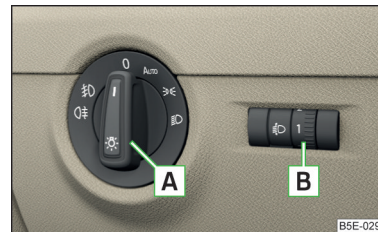

Fig. 50
The arrangement of the controls right-hand drive models may differ from the layout shown in » Fig. 50 on page 71. The symbols that mark the individual positions of the controls are identical.
Depending on the equipment configuration, the light switch **A** » Fig. 50 can be moved to the following positions. ▶
Turning the dial **B** » Fig. 50 from the position **—** in **3** means the headlight beam range is gradually adjusted, thereby shortening the beam of light.
- ✓ The light switch is in the position 0 or AUTO » Fig. 50 on page 71.